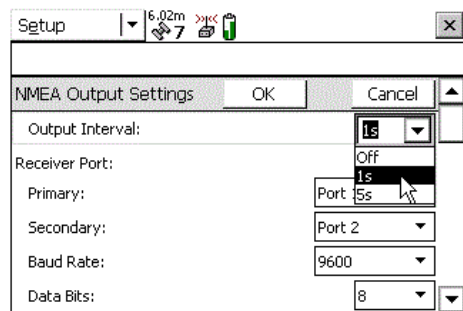

Figure D-6. Setup NMEA Output Settings
- 7 Tap **GPS Settings** and then scroll to the bottom of the window. Tap the wrench icon in the *NEMA Output* field to display the *Setup NMEA Output Settings* window (Figure D-6).